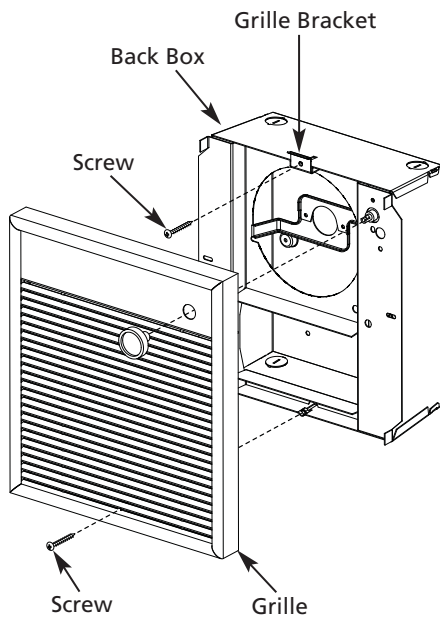

Figure 7
1. Attach grille bracket with screw provided in the top part of the back box as shown in Figure 7, page 5.